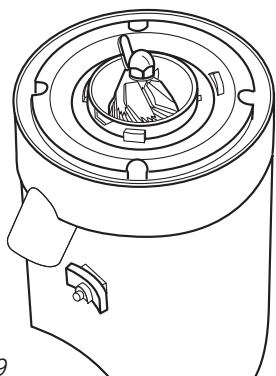

Figure 9
5. Clean the bottom burr using the burr-cleaning brush, see figure 9.